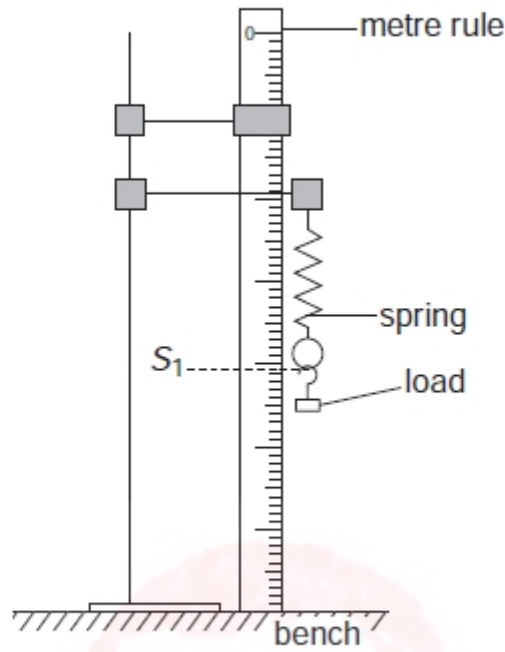

Fig. 1.2
- (b) He then hangs the load on the spring as shown in Fig. 1.2. He records the new scale reading  $S_1$ .